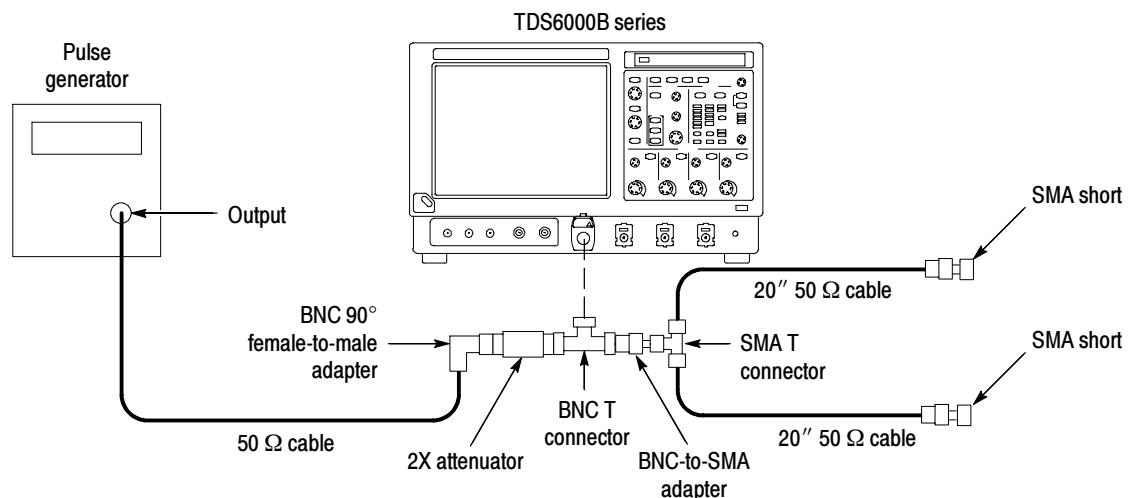

Figure 4-16: Delta time accuracy test hookup
- b. *Hook up the pulse generator (see Figure 4-16 on page 4-44):*